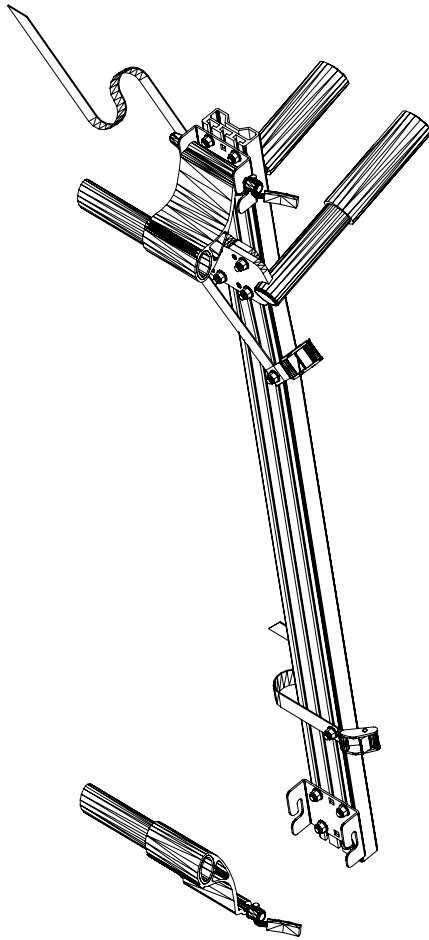

Figure 3A
3.2. Place the beam assembly in the intended location on the Cross Arms by sliding the upper QCB (Quick Connect Bracket) over the skewer in the fork mount. Do not tighten the skewer at this time. See Fig 3A.